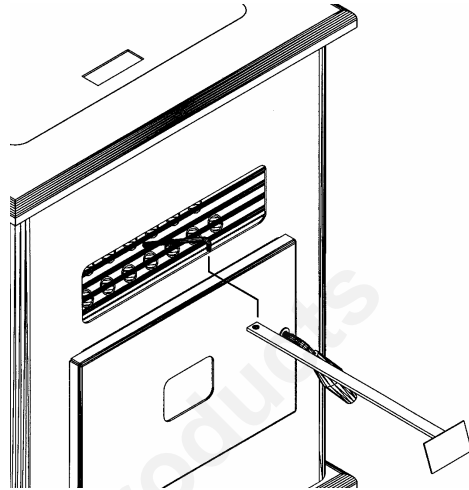

FIGURE 15
- Clean heat exchanger tubes (see “**CLEANING**” and Figure 15).
- With the door closed clean heat exchanger tubes. (See “**CLEANING**” and Figure 15).
- Heat Exchange Tubes** – Your Breckwell Big E stove is designed with a built-in heat exchange tube cleaner. This should be used every two or three days to remove accumulated ash on the tubes, which reduces the efficiency of your unit. Insert the handle end (with hole) of the cleaning tool onto the cleaning rod (refer to figure 15). The cleaner rod is located in the grill above the stove door. Move the cleaner rod back and forth several times to clean the heat exchanger tubes. When finished be sure to leave tube cleaner at the rear of the stove.